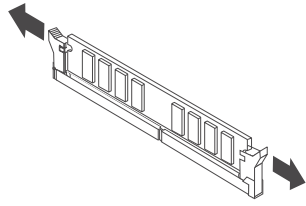

Figure 18. Opening the DIMM memory-module retainer clips
3. Rotate the memory-module-retainer clips **1** to the open position. The memory module is disengaged from the memory connector. See Figure 18 on page 27.